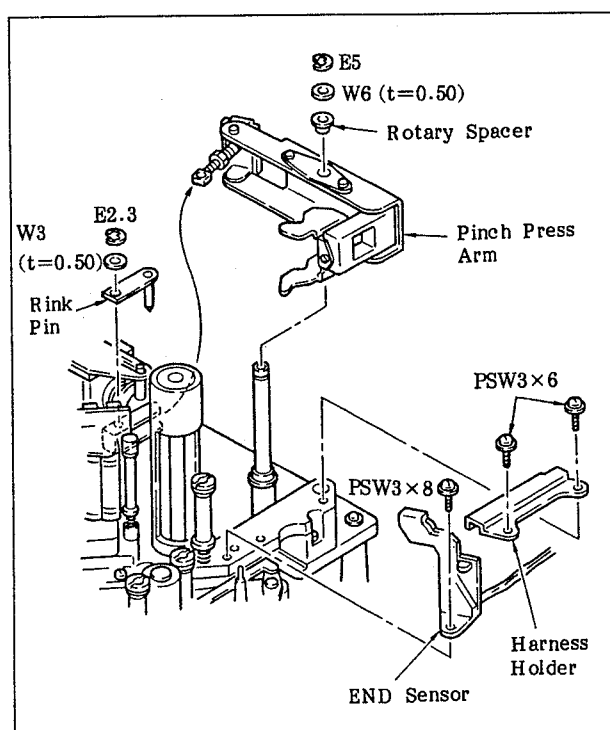

Fig. 6-82 Preparation before Making the Adjustments (1)
- Remove the pinch press arm, END sensor, and harness holder by referring to Figure 6-82.